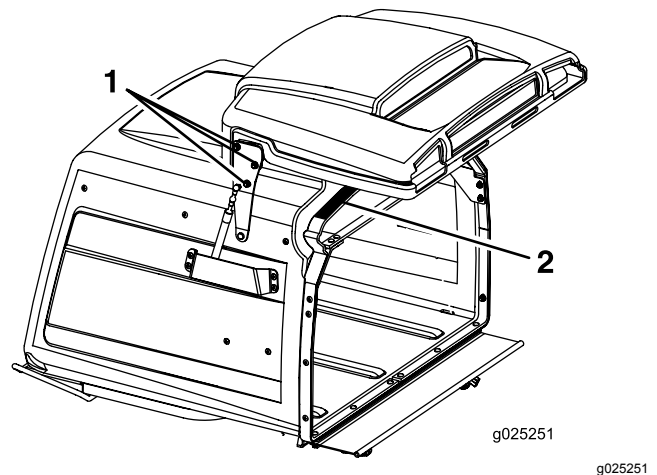

Figure 62
3. Loosen the 6 door hinge nuts (Figure 62).
4. Open the door and place a 3/8 inch (9.5 mm) rubber strip or 3/8 inch (9.5 mm) diameter hose between the hopper and the hopper door (Figure 62).